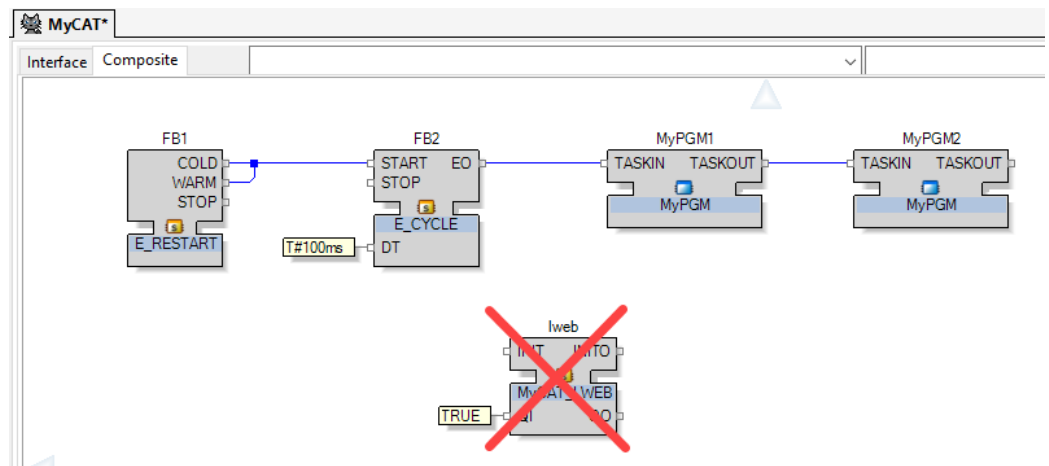

Figure 47: Embed the 61131 program in a 61499 CAT.
13. Connect the COLD and WARM Restart outputs to the START input by drag-and-drop between the function blocks as shown in Figure 47.